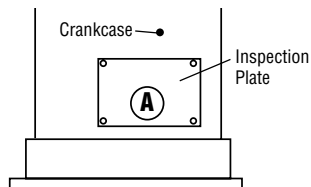
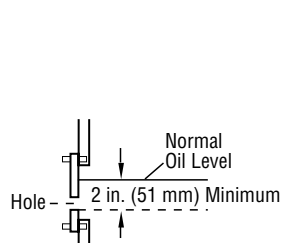

Figure 2
Figure 3
3. Drill and tap a 1/2 NPT female pipe thread into the inspection plate at point "A" (Figure 2). **CAUTION: Clean area of metal shavings.** The hole is to be a minimum of 2 in. (51 mm) below normal running oil level (Figure 3).
1. If installing into a thick wall crankcase, drill and tap a 1/2 NPT female pipe thread into the crankcase. **CAUTION: Clean area of metal shavings.** The hole is to be a minimum of 2 in. (51 mm) below normal running oil level (Figure 3).
If installing into a thin wall crankcase, drill a hole in the crankcase slightly larger than outside diameter of a 1/2 in. coupling. The hole is to be a minimum of 2 in. (51 mm) below normal running oil level (Figure 3). **CAUTION: Clean area of metal shavings.** Weld a half collar (1/2 NPT) into the hole.